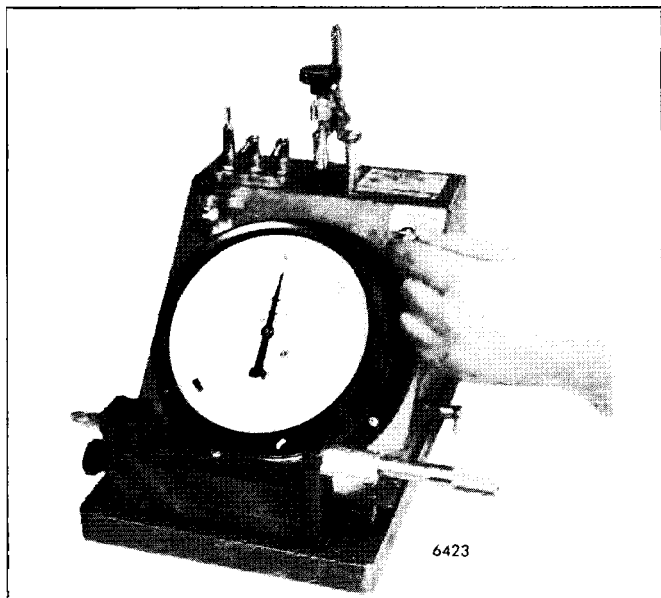

Fig. 13 - Adjusting the Calibrating Valve
3. Adjust the calibrating valve, so that the gage needle is exactly at the "set line" (Fig. 13).